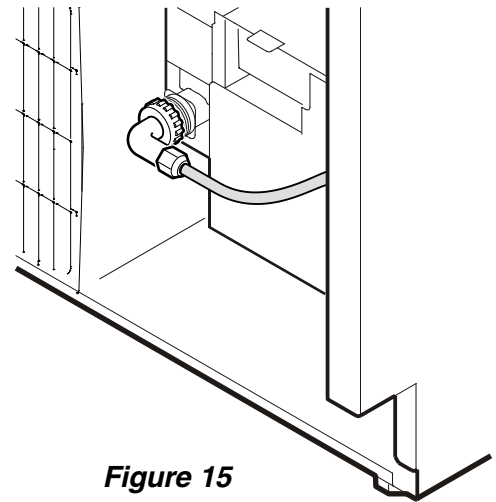

Figure 15
8. Screw the OD adapter onto the solenoid valve (**Figure 15**).